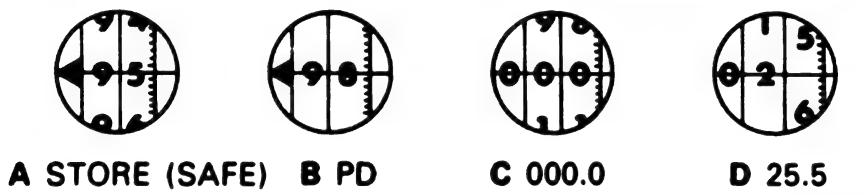

Figure 211.7. Fuze setting sequence.
(4) To set fuze for mechanical time action, turn the fuze setter counterclockwise from SAFE position ($\leftarrow 93.5$ to $\leftarrow 95.5$) past PD ($\leftarrow 98.0$) until the triangle (\leftarrow) disappears. This action occurs near a 000 setting. Continue to turn fuze setter counterclockwise until desired time appears under the hairline. Maintain a very light turning force against the fuze setter while reading the setting. The sequence is illustrated below for a setting of 25.5. (fig. 211.7).
(5) To set lower time on a fuze already set, reseat fuze setter and turn clockwise (numbers get smaller) to a setting at least 1 second lower than the required setting (for example, at least 24.5 to 25.5).